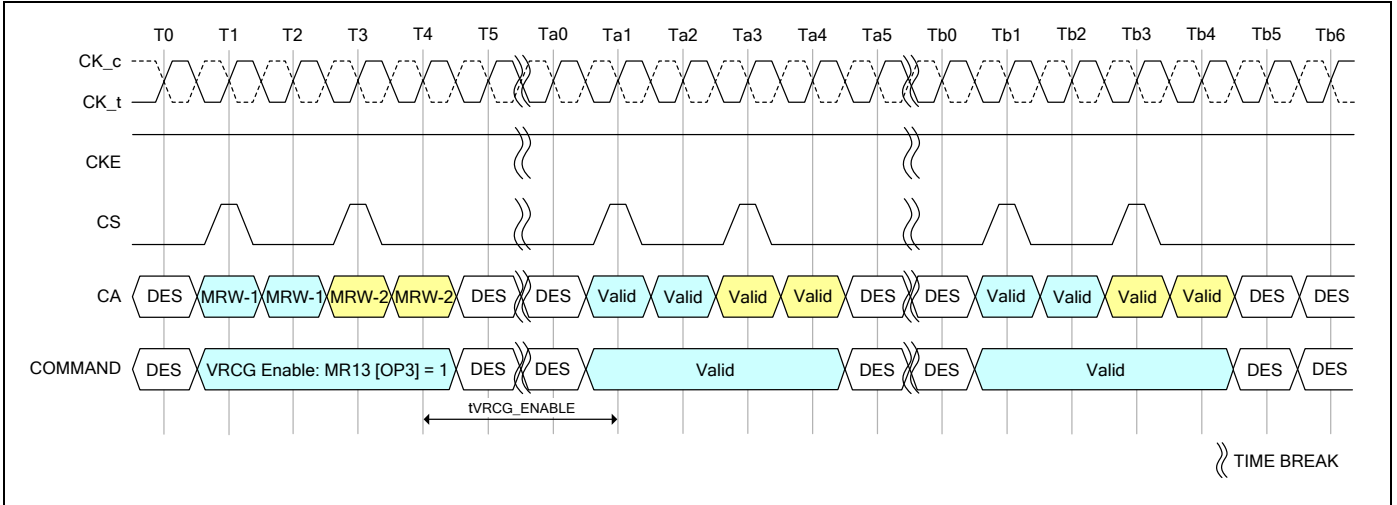

Figure 82 - VRCG Enable timing
LPDDR4X SDRAM VREF current generators (VRCG) incorporate a high current mode to reduce the settling time of the internal VREF(DQ) and VREF(CA) levels during training and when changing frequency set points during operation. The high current mode is enabled by setting MR13[OP3] = 1. Only Deselect commands may be issued until tVRCG_ENABLE is satisfied. tVRCG_ENABLE timing is shown in Figure 82.